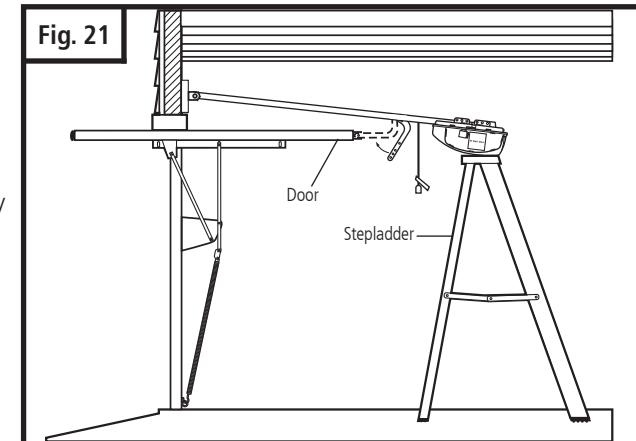

Fig. 21
- To check for correct mounting height, temporarily position curved door arm as if connecting to door bracket. See Fig. 21. The long side of the arm should be parallel to the floor when door is fully opened. Raise or lower powerhead so that arm will be parallel to floor.